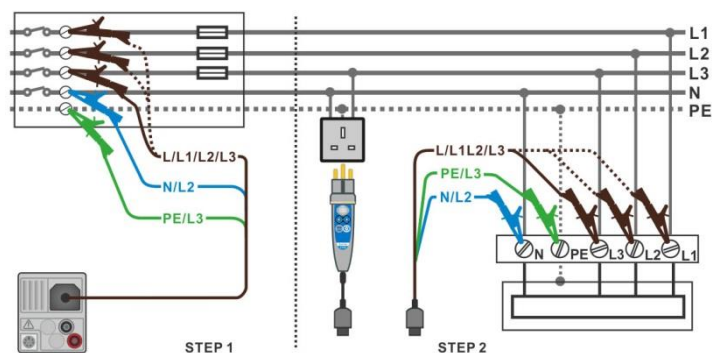

Figure 7.102: AUTO TT measurement
- Connect test leads or Plug commander to the object under test, see **Figure 7.102**.